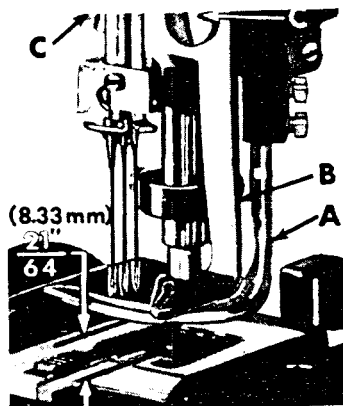
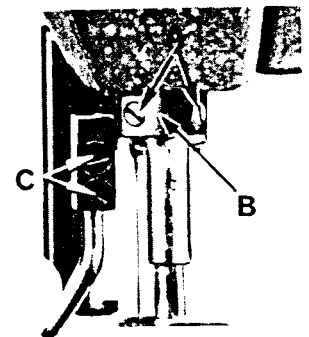

Fig. 15
Fig. 16
With the needle bar in the up position, and the spreader (A, Fig. 15) at the left end of its stroke, the upper spreader point should extend  $\frac{7}{32}$  inch (5.56 mm) to the left of the center line of the left needle. This is accomplished by loosening screws (A, Fig. 16) and rotating spreader holder (B) to position the upper spreader point. Retighten screws.
**CAUTION:** The spreader holder is also the lower thrust collar for the spreader shaft, so when tightening screws (A, Fig. 16) be sure to push down on the spreader shaft and up on the spreader holder.
The spreader should clear the left needle shank by  $\frac{1}{64}$  to  $\frac{1}{32}$  inch (.40 to .79 mm) and the bottom of the spreader should be  $\frac{21}{64}$  inch (8.33 mm) above the throat plate (Fig. 15). To adjust, loosen screws (C, Fig. 16) and position spreader as required.
The left edge of the spreader thread guide (B, Fig. 15) should clear the right needle by approximately  $\frac{3}{32}$  inch (2.38 mm) and be kept close to the top of the spreader. This is accomplished by loosening screws (C) and moving the guide as necessary.